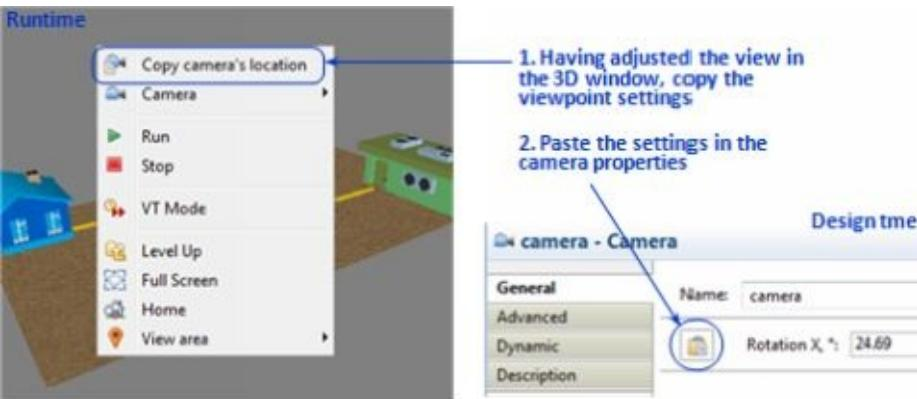

Figure 14.21 Tuning the camera position
14. Open the editor of **Airplane** and drag the **Camera** object from the **3D** palette. Place the center of the camera slightly behind the tail of the aircraft and rotate it so that it looks toward the nose (see Figure 14.21).